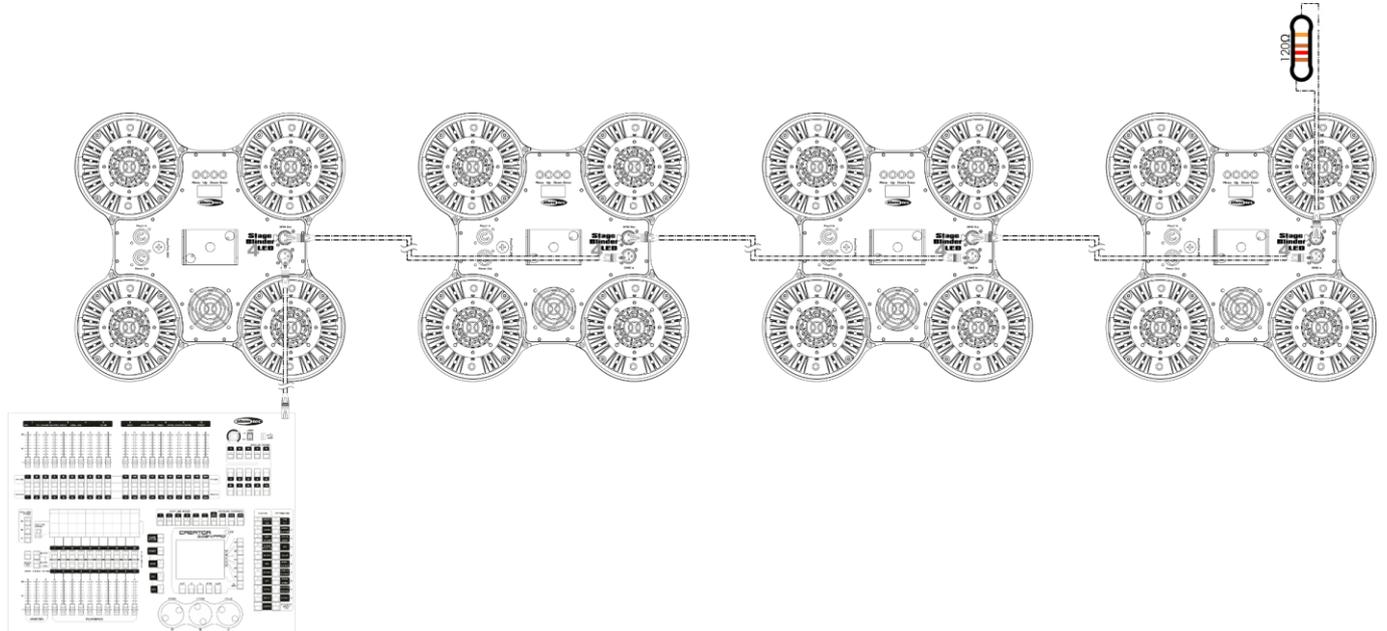

Fig. 03
- 05) Link the units as shown in Fig. 03. Connect a DMX signal cable from the first unit's DMX "out" socket to the second unit's "in" socket. Repeat this process to link the second, third and fourth units.